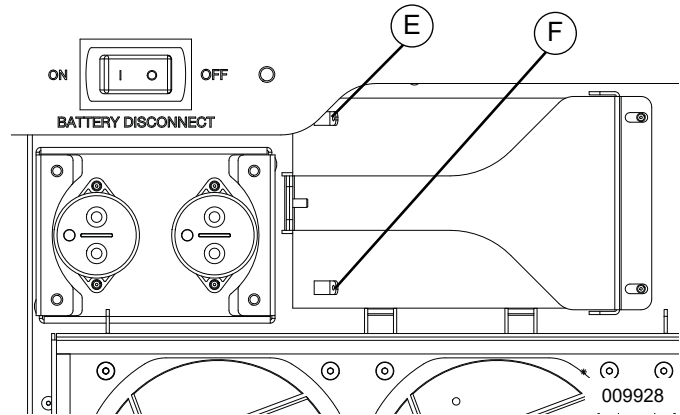

Figure 4-5. Blackstart Battery Connections
See Figure 4-5. Connect blackstart battery lead to battery terminal (E).